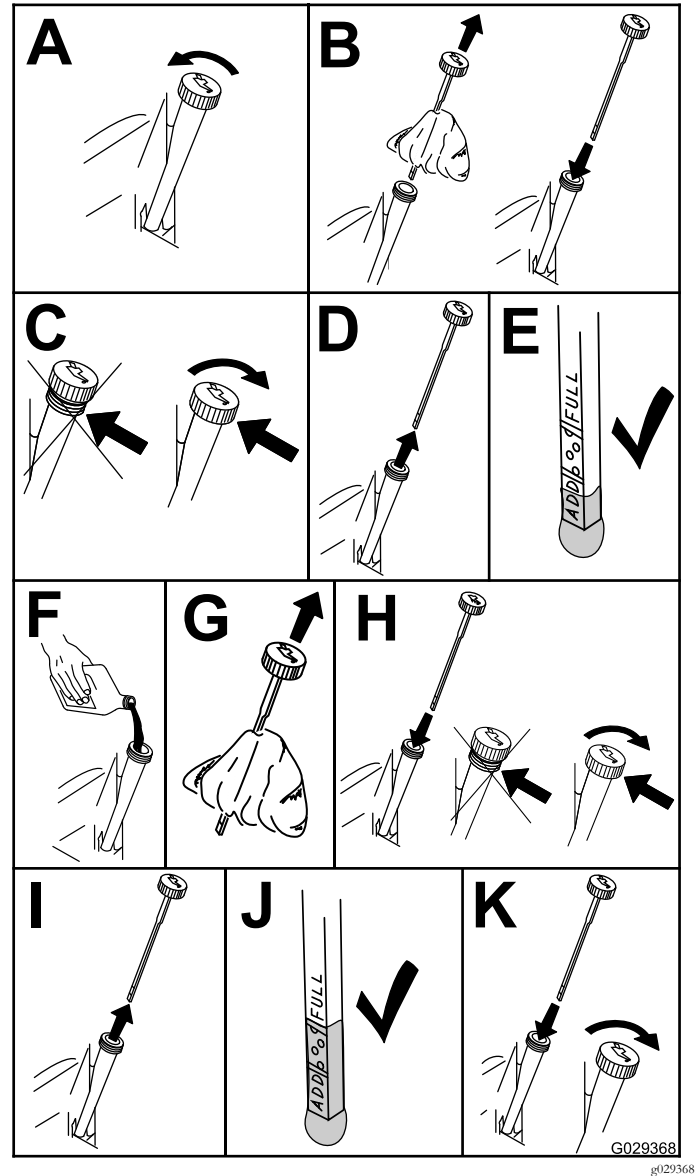

Figure 21
2. Check the engine-oil level (Figure 21).